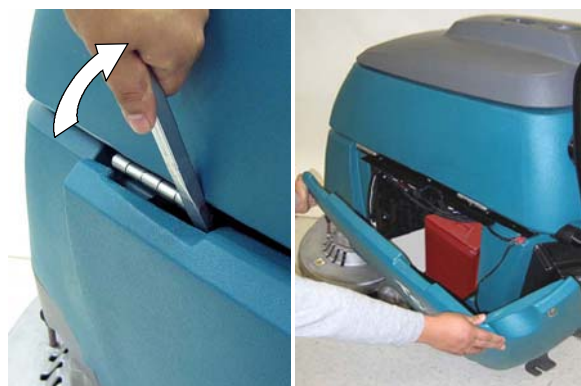

Fig. 6
- b. Lower the recovery tank and pry out the top left edge of the panel to remove (Figure 6).